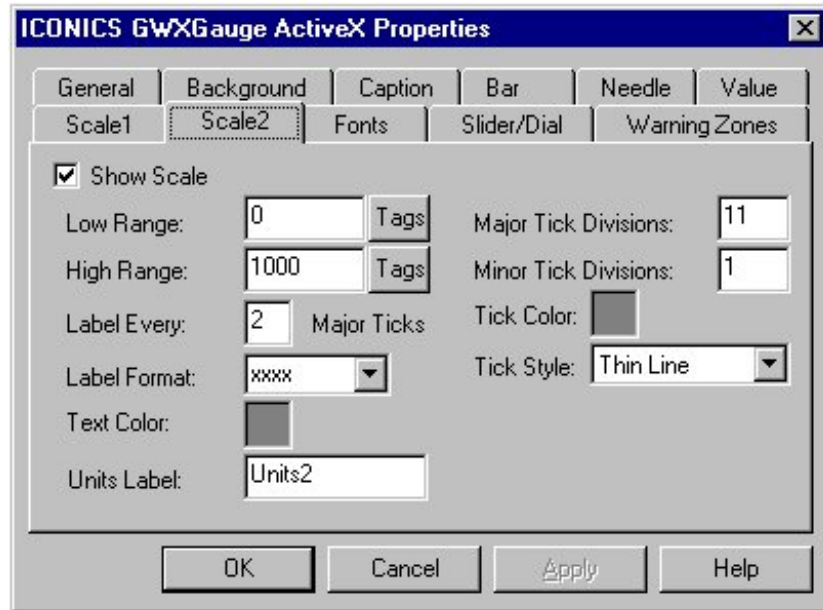

Figure 15-11: GWXGauge ActiveX Properties Dialog Box: Scale2 Tab
2. Select the Scale2 tab (Figure 15-11).